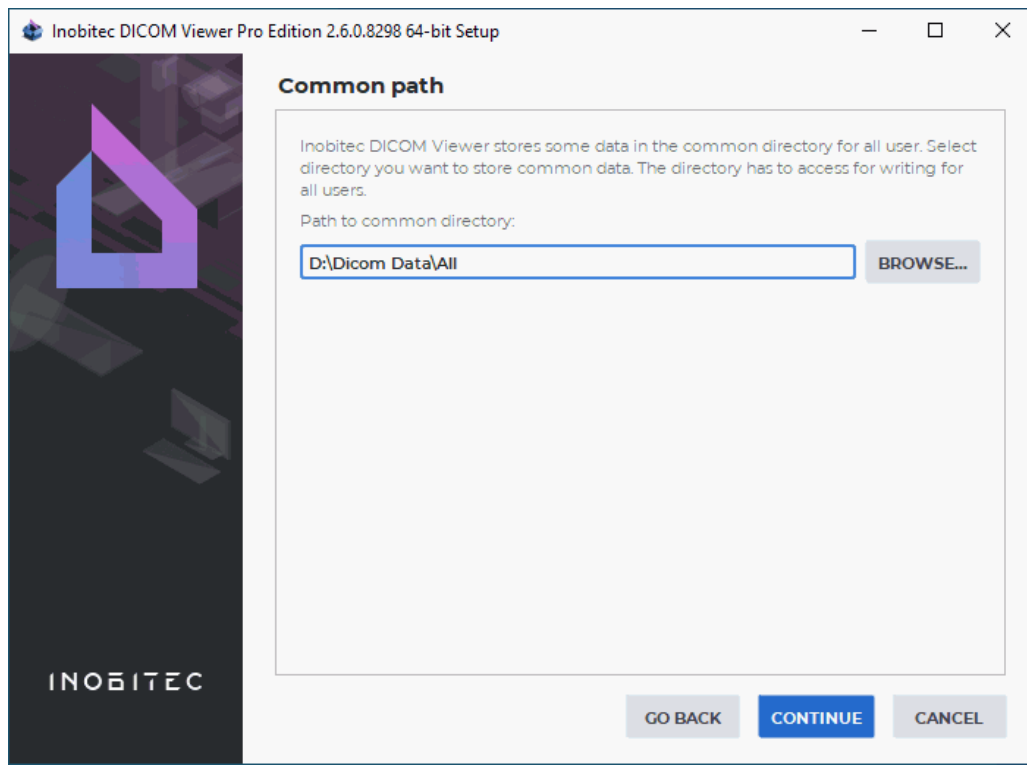

Figure 6: Common Directory for service information
8. If you select installation for all users, then you need to specify the Common Directory to store the program service information (Fig. 6). If necessary, change the path to the Common Directory. We recommend leaving the default value. Click **CONTINUE**.